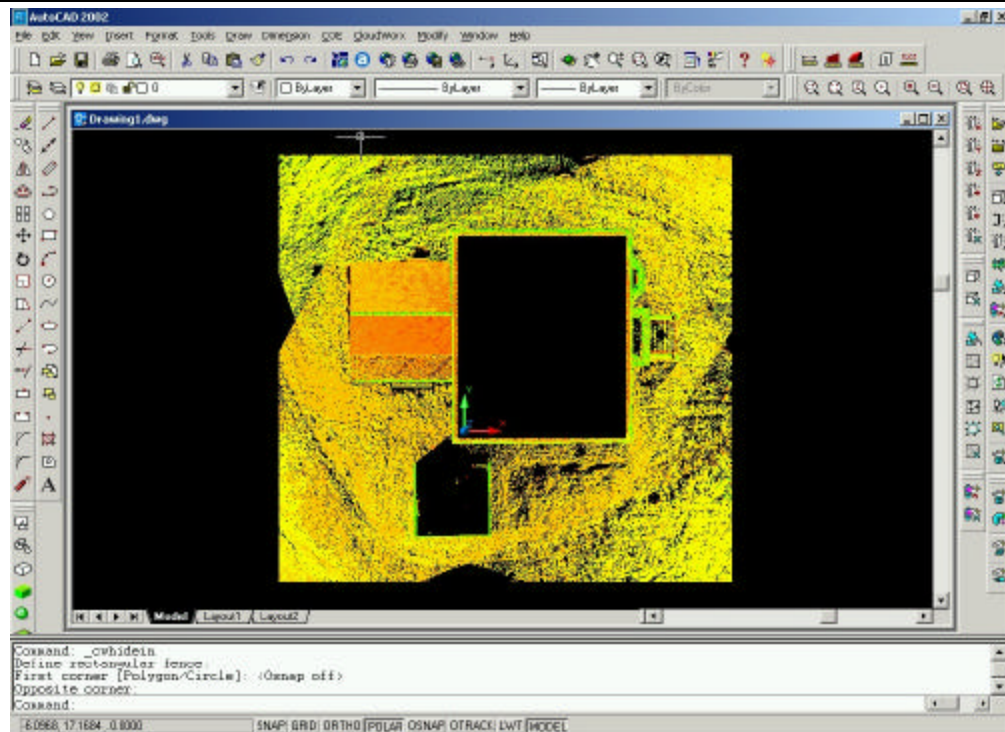

fig 3.1.2
7. Your final view should look like Fig 3.1.2